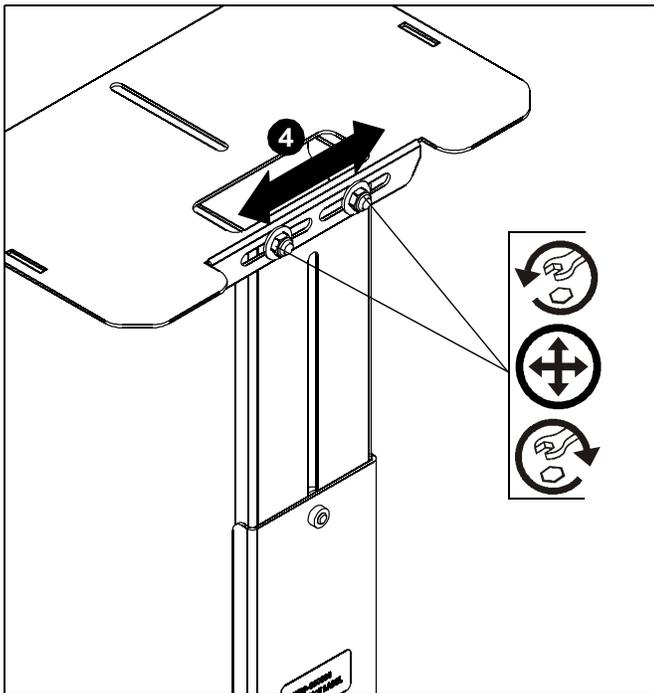

Figure 5
- Adjust the shelf from side to side, if necessary, by loosening the two Nylock lock nuts, moving the shelf and tightening the lock nuts. (See Figure 5)